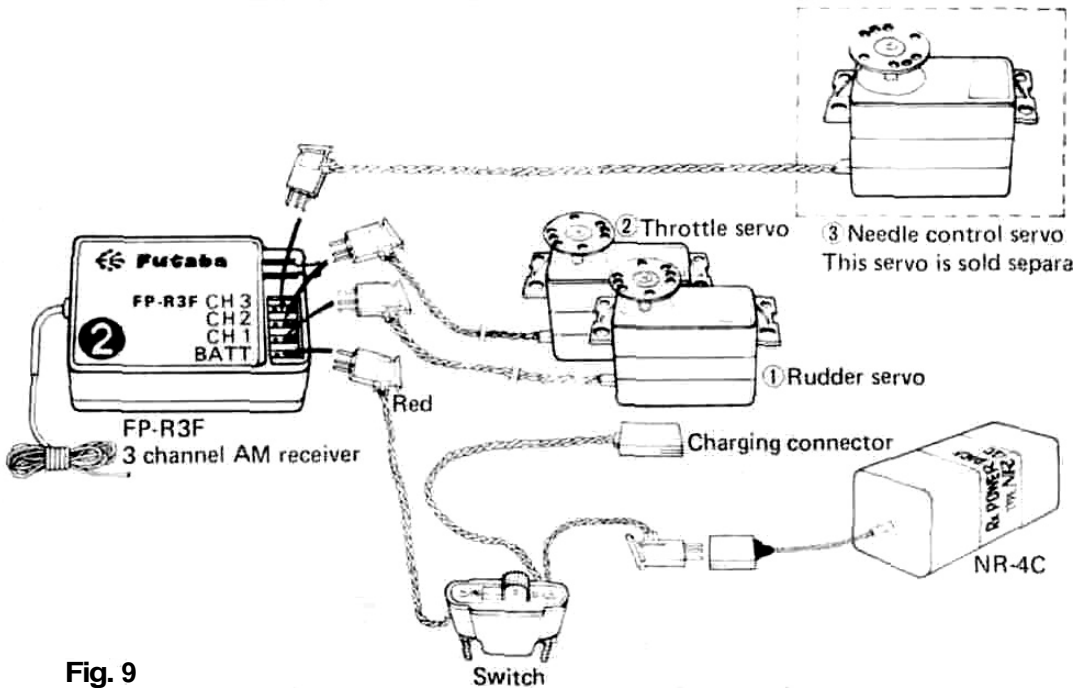

Fig. 9
- Connect the servo and switch as shown in Fig. 9. Then extend the transmitter and receiver antennas fully.